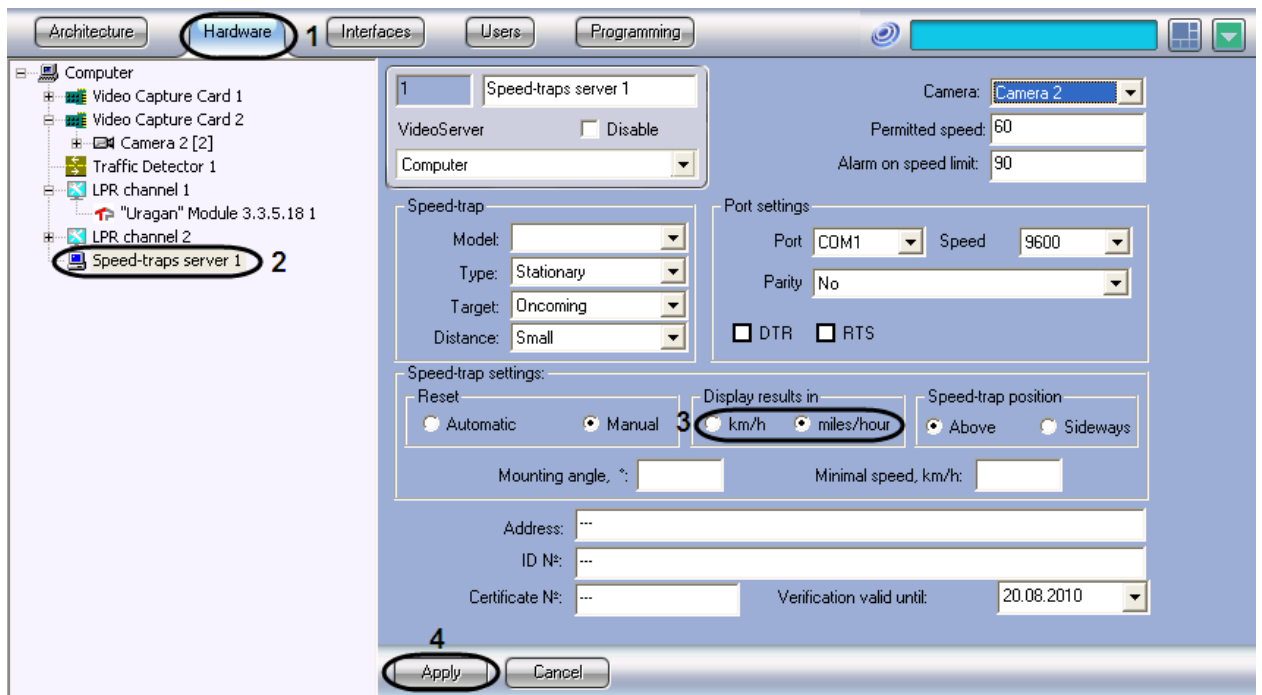

Fig. 7.3-9 Selecting the speed unit
2. In the object tree on the left side of the Hardware tab, select the Speed-trap server object representing the Radar module to be set up. The settings panel of the selected object will open on the right side of the window (see Fig. 7.3-9).